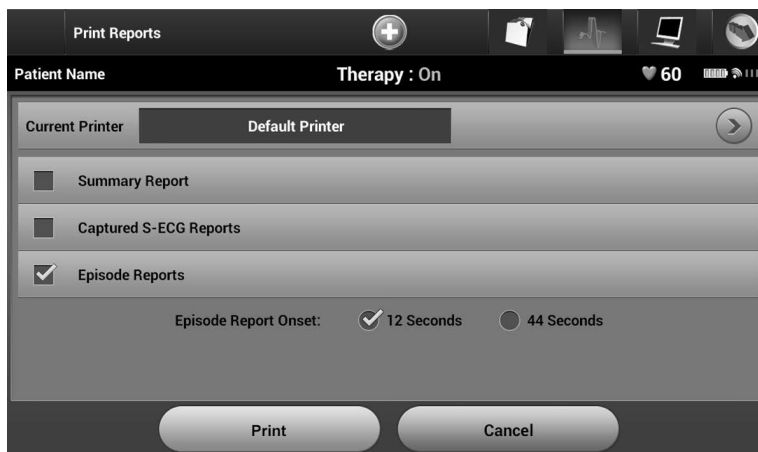

Figure 41: *Print Reports screen*
3. Select Continue to return to the Print Reports screen (Figure 41). Either 12 seconds or 44 seconds of pre-episode S-ECG data may be selected using the radio buttons below the Episode Reports row. The default value for Episode Report Onset is 12 seconds.